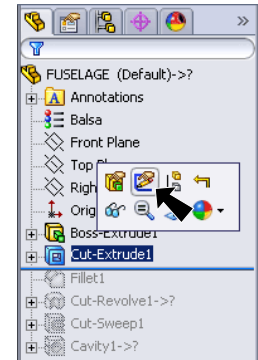

Fig. 2
Step 3. Click **Cut-Extrude1** in the Feature Manager and click **Edit Sketch**  on the Content menu, **Fig. 2**.